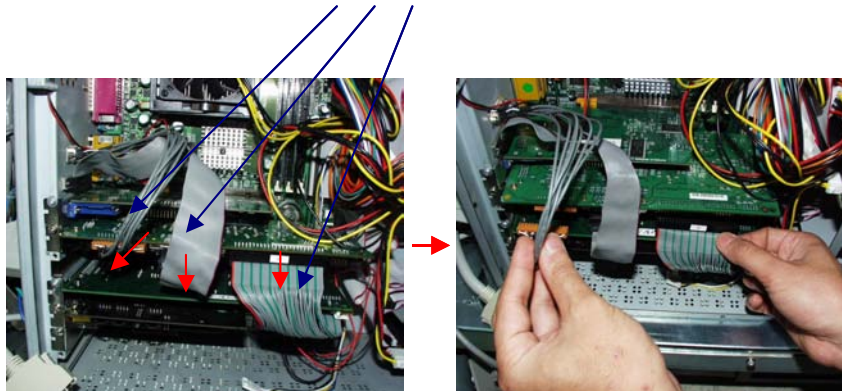

Figure 8-161 Connectors on VIC assy
- 1.) Disconnect all of connect in VIC assy. Refer Figure 8-161.